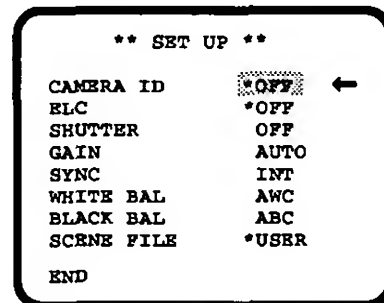
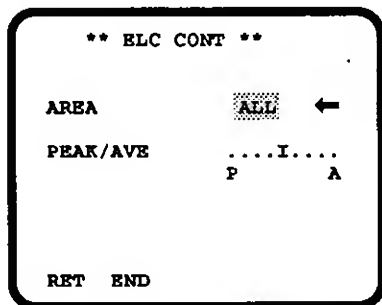
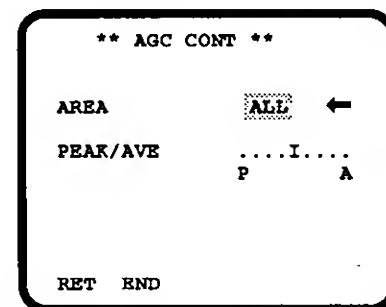

Fig.13.
Fig.22.
Fig.24.
- By pressing the Page Button (PAGE) for more than 2 seconds, the 'SETUP' menu is displayed on the monitor screen as shown in Fig.13.
- Move the character cursor to "RET" position by using the Right Button (>) and press the Page Button (PAGE) to display SETUP Menu as shown in Fig.13.
- Display the SETUP menu as shown in Fig.13.
- Move the cursor to the "ELC" position by using the Item Button (ITEM) and select either the "ON" for ELC detection area control or "OFF" for AGC detection area control by using the Electronic light Control ON/OFF Switch (ELC ON/OFF) (12) on the front panel.
- Display the SETUP Menu as shown in Fig.13.
- Move the cursor to the "ELC" position by using the Item Button (ITEM) and set the Electronic Light Control ON/OFF Switch (ELC ON/OFF) (12) on the front panel to "ON" position to select the "ON" mode.
- Press the Page Button(PAGE) to set the detection area and the ELC detection control area (ELC CONT) is displayed as shown in Fig.22.
- Move the cursor to the "ELC" position by using the Item Button (ITEM) and set the Electronic Light Control ON/OFF Switch (ELC ON/OFF) (12) on the front panel to "OFF" position to select the "OFF" mode.
- The AGC detection control area (AGC CONT) is displayed as shown in Fig.24.